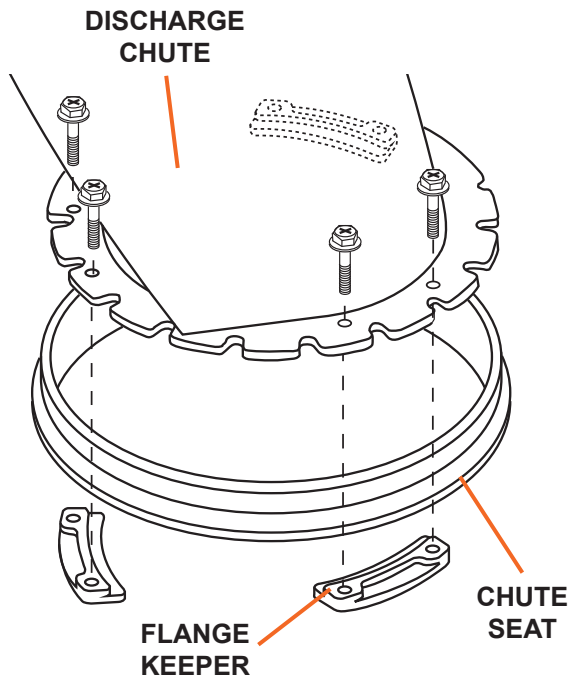

Figure 7
1. Attach the discharge chute to the snow blower by placing it on the chute seat on the snow blower on top of the plastic friction ring. Position the flange keeper beneath the chute seat lip. Align the two holes in the chute and two holes in the flange keeper and secure with two bolts from the top side (see Figure 7). Repeat in three locations to attach the discharge chute to the snow blower.